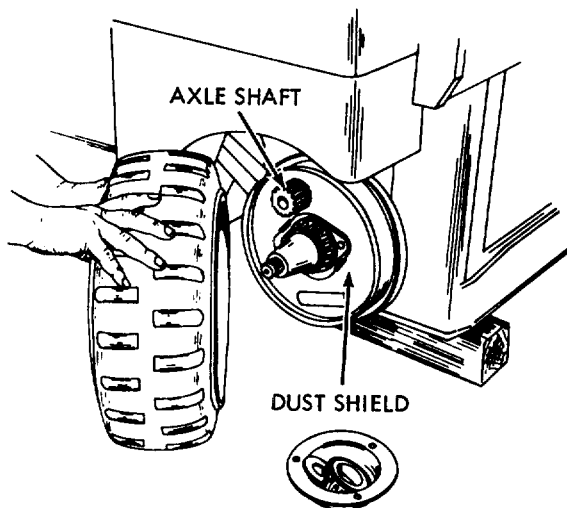

Figure 4-49. Dust shield.
(1) Remove the wheel and wheel bearing at described in paragraph 4-55.
(2) Remove the dust shield to expose the brake components for service. Refer to figure 4-49.